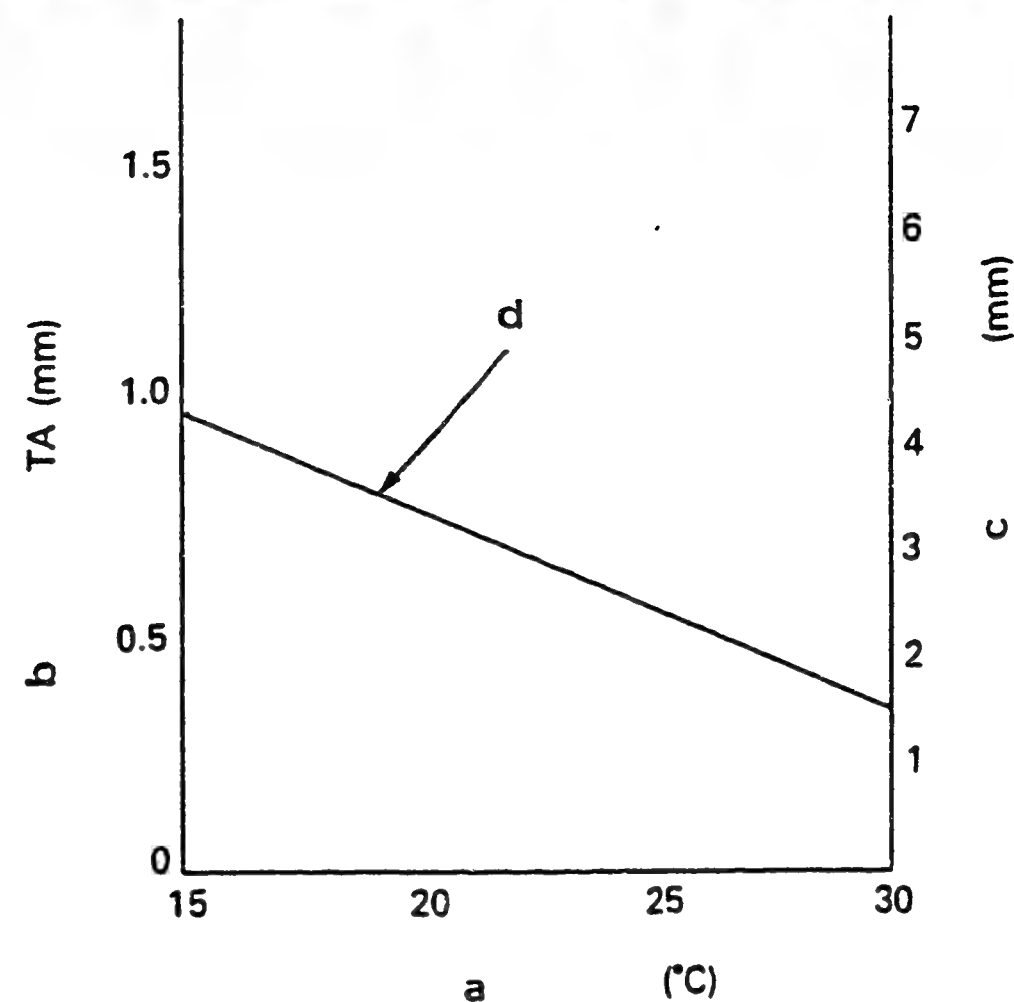

Fig. 31
- 1) Calculate the timer stroke from Fig. 31 according to the atmospheric temperature at the time of adjustment. Adjust using timer stroke adjusting screw (1) so that the timer stroke is as calculated in Fig. 31.